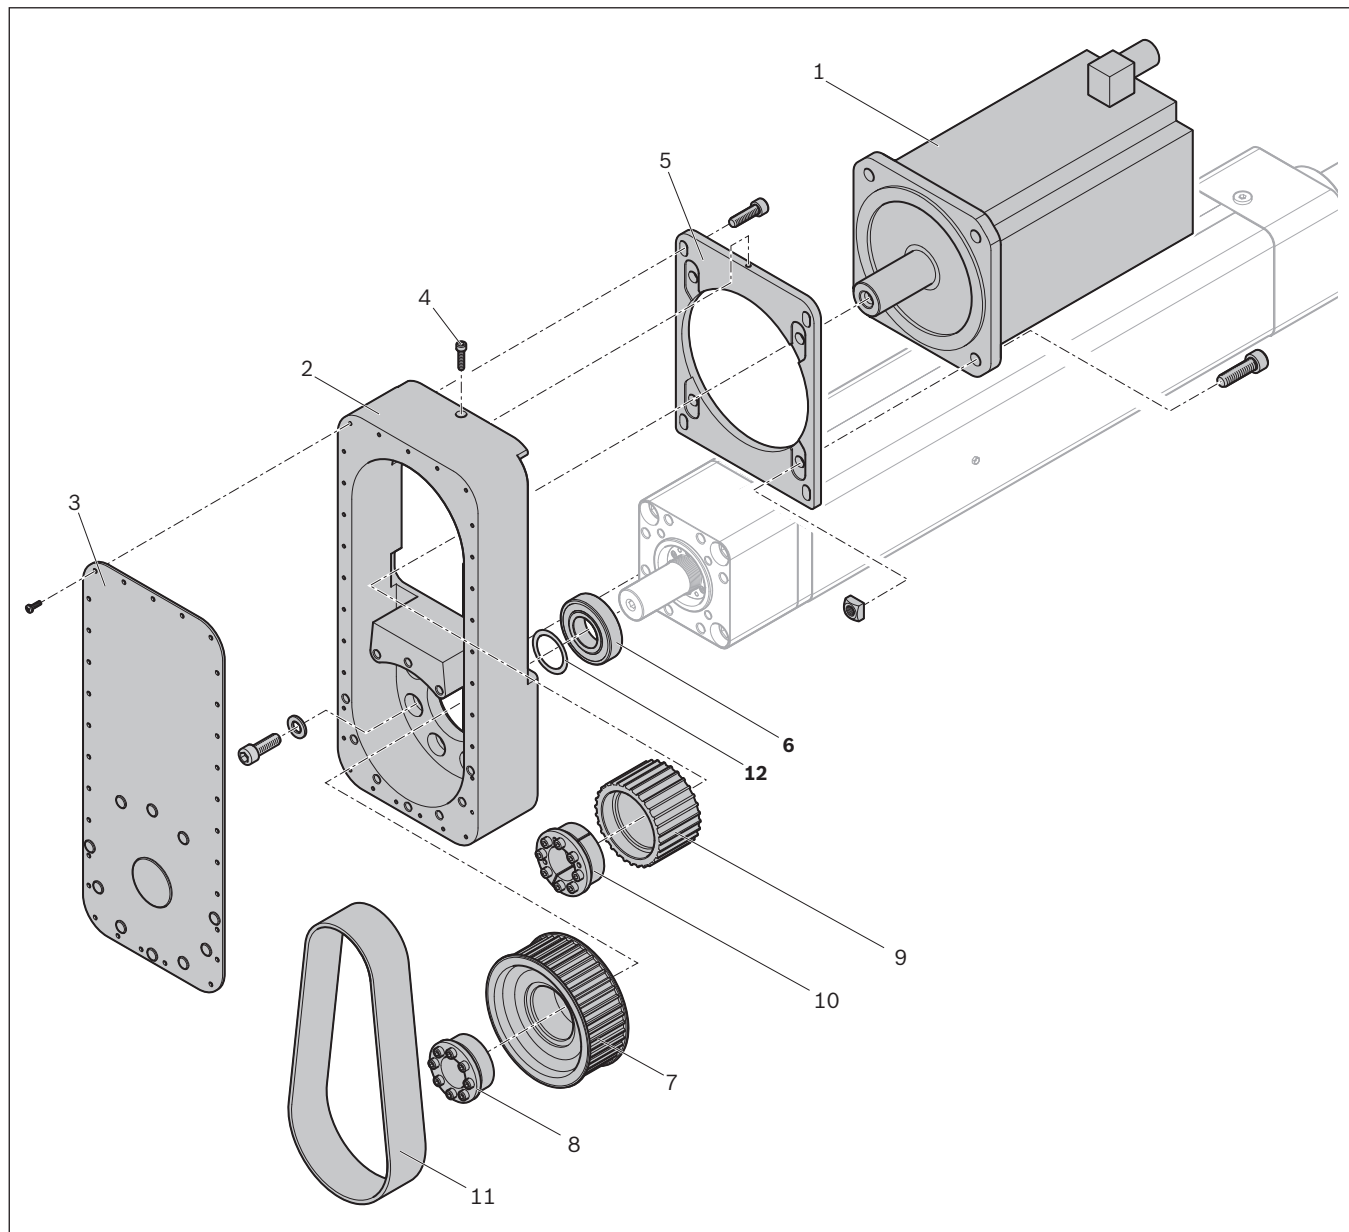

Fig. 19: Mounting the belt side drive and motor on the EMC-HP
- 3. Push the washer (12) onto the screw end. Push the system-side belt pulley (7) with fitted toothed belt (11) and tensioning unit (8) onto the journal of the EMC-HP until it reaches the stop ➡ Fig. 19 on page 22.